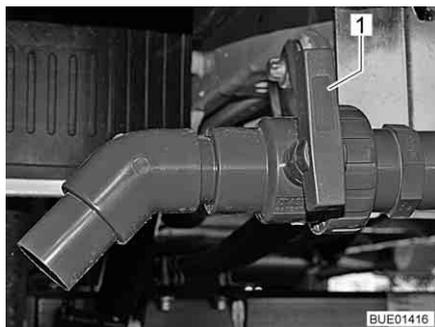

Fig. 206 Drain cock (outside)
- Turn the handle (Fig. 206,1) of the drain cock in flow direction. This drains the waste water through a spherical valve.